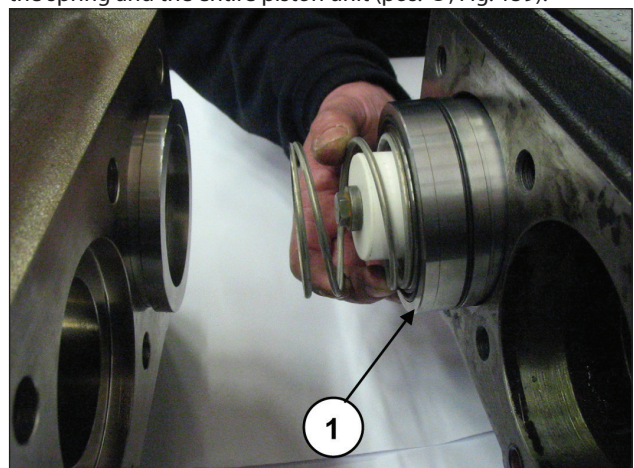

Fig. 159
Turning the shaft, have the piston guide move forward so that the buffer, moving ahead, can expel the seal support, the spring and the entire piston unit (pos. ①, Fig. 159).